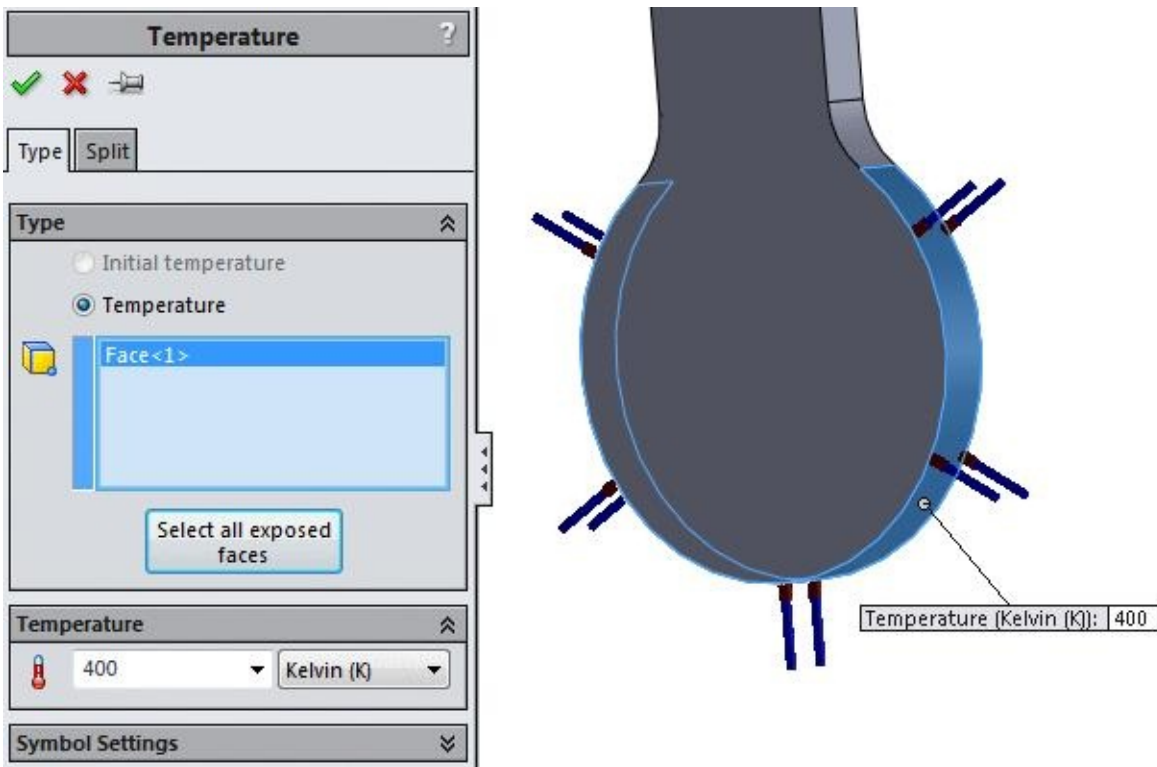

Figure-57. Preview of temperature
- Click in the **Temperature** edit box of the **Temperature** rollout and specify the desired value in the edit box. Preview of the applied temperature will be displayed; refer to Figure-57.